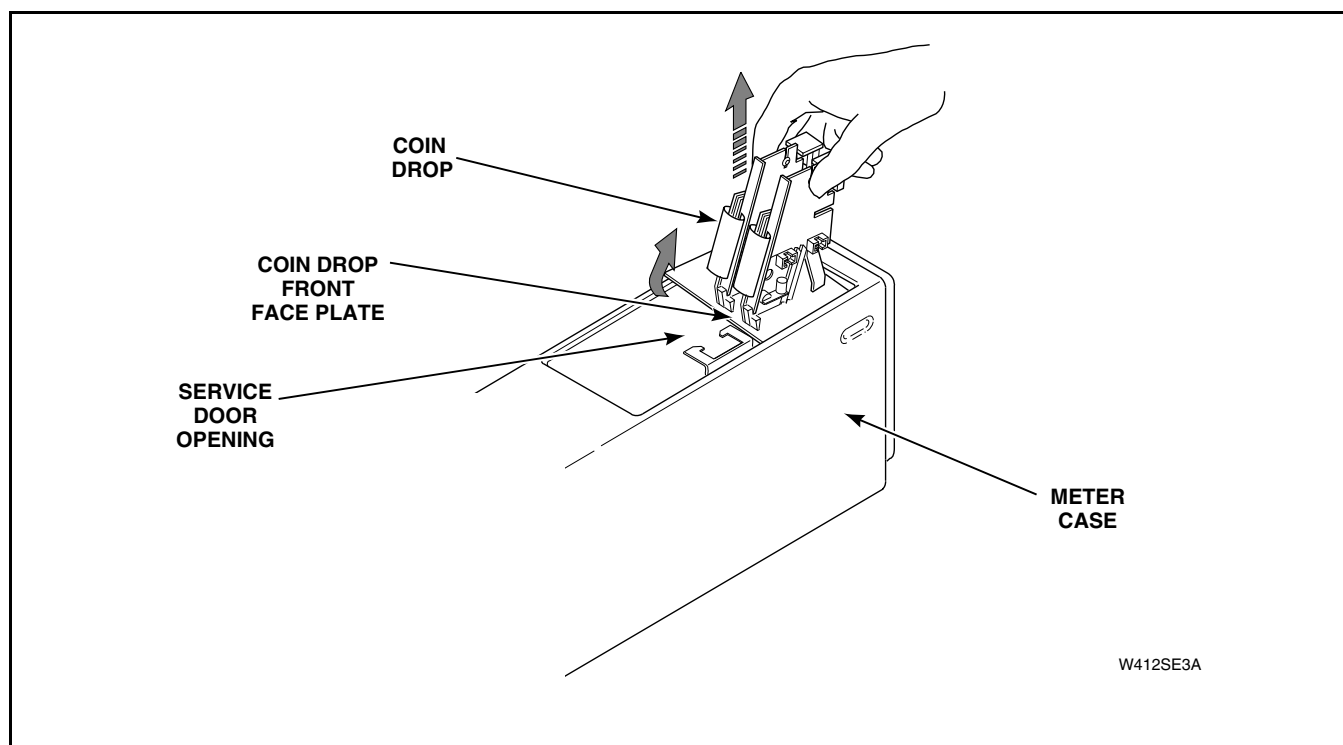

Figure 19
- (11) Carefully lift complete coin drop straight up and out of meter case. Refer to *Figure 19*.
NOTE: When lifting drop out of meter case, tip drop slightly so front face plate clears service door opening. Refer to *Figure 19*.